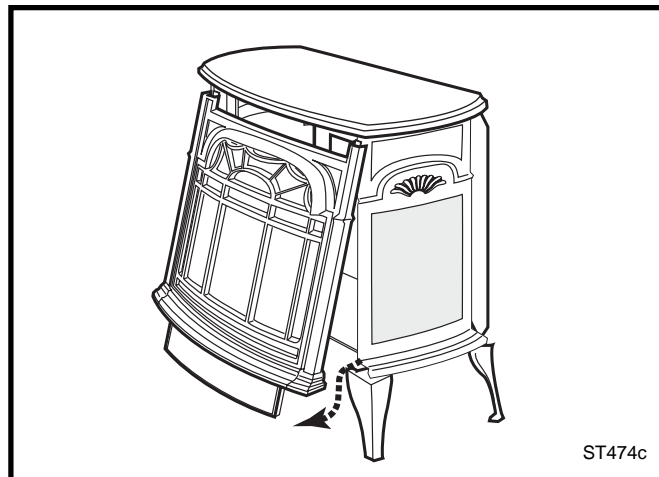

Fig. 77 Remove the Stove Front.
2. Lift the Stove Front up and then swing the bottom out to disengage it from the heater shell. (Fig. 77)
1. Remove the Front, Glass Frame and Glass Panel. (Figs. 77 & 78) Remove the old gasket. Use a razor blade to separate the glass and gasket from the frame, and to clean the glass of any remaining cement or bits of gasket. Use a cold chisel if necessary.